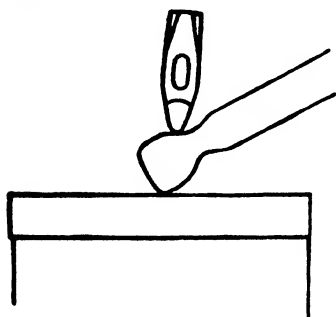

FIG. 32
8. Take the sharp corners off the stock just under the eye with the fuller until the lower part of the eye is circular. Draw the taper down perfectly smooth under the eye. Fig. 32.